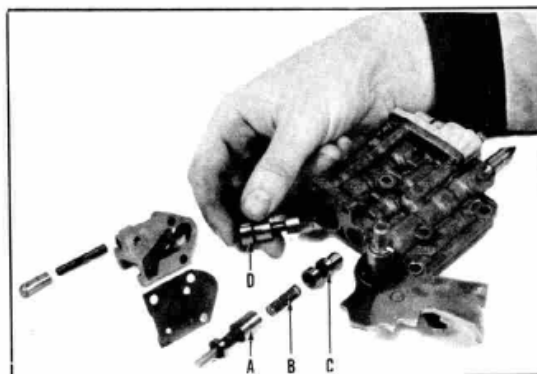

Figure 10
13. Remove the "T" valve (A), the throttle valve spring (B) and the throttle valve (C), Figure 10.
14. Remove the double transition valve and spring (D), Figure 10.